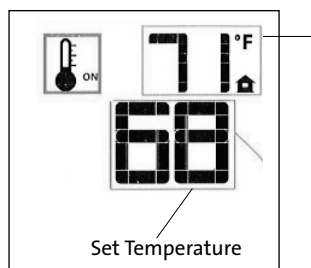

Figure 57. Thermostat ON.
- To activate this function, press the Thermostat Key. The display will indicate that the room thermostat is “ON” and the current Set Temperature is now displayed. Fig. 57.